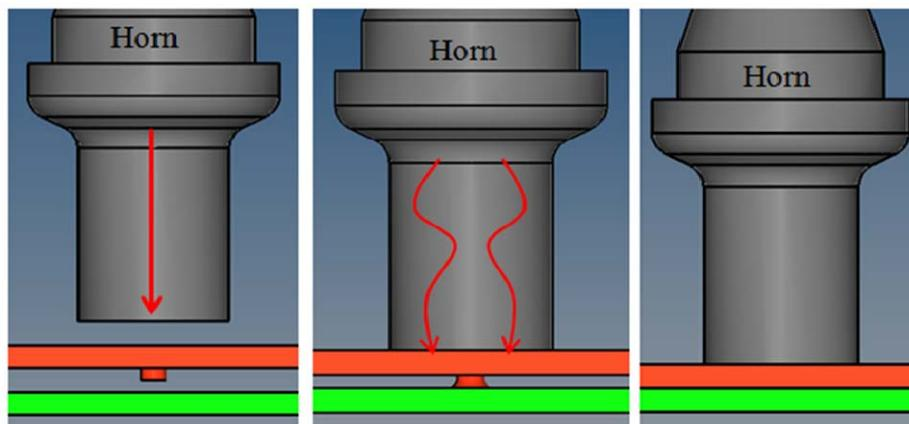

Figure 1: A horn makes contact with two materials. The energy director promotes the start of the polymer melt at the weld interface.
**So how does it work?** Ultrasonic welding bonds two plastics (similar or dissimilar polymers) via concentrated ultrasonic motion. A transducer translates electrical energy input to physical motion. The overall physical distance traveled in one stroke of this motion is the amplitude of the process. A typical amplitude range for ultrasonic welding is 10-250  $\mu\text{m}$ . This motion can be amplified through a booster if higher frequencies are required to weld the polymers. The ultrasonic motion is then concentrated again through a horn. The horn is what contacts and delivers the ultrasonic motion to the material and begins the welding process. This is shown in Figure 1.
This is shown in Figure 1.